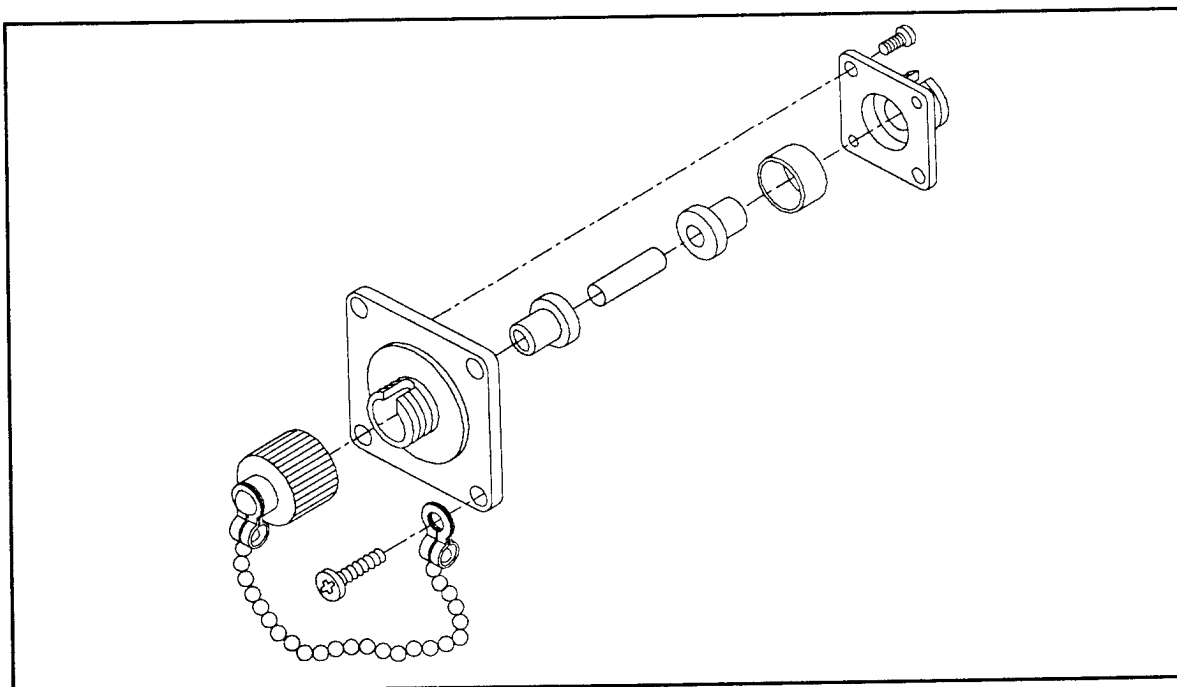

Figure 5-2. FC Optical Connector Assembly.
4. Disassemble the bulkhead. Figures 5-2 through 5-6 show the different connector assemblies including the SMA and Biconic connectors.